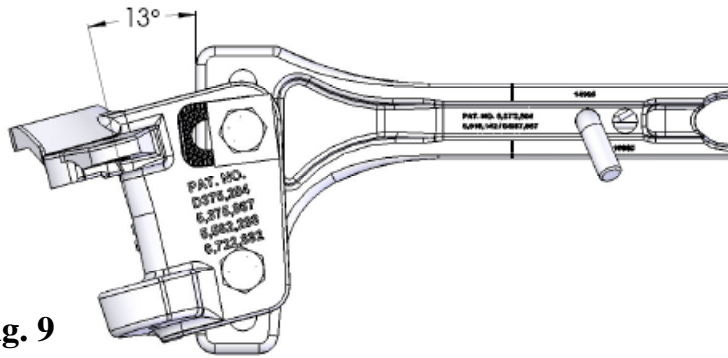

Fig. 9
- Tilt ball mount for proper "Y" dimension at the end of the spring bar. The ballmount is adjustable through a 13° angle range for proper spring bar adjustment. Fig. 9